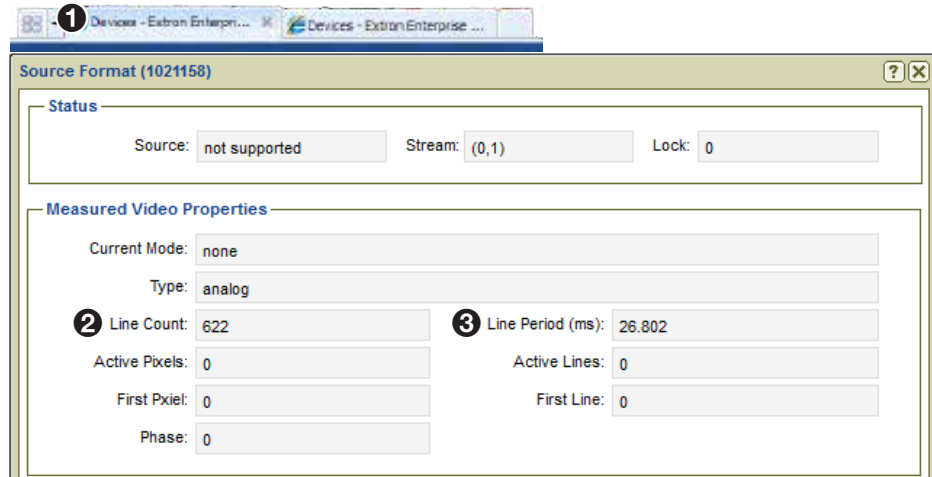

Figure 130. Source Format Line Count and Line Period (ms)
20. Return to the left tab (see figure 130, ❶) where the Source Format dialog box is open. Note the values in the **Line Count** (❷) and **Line Period (ms)** (❸) fields.